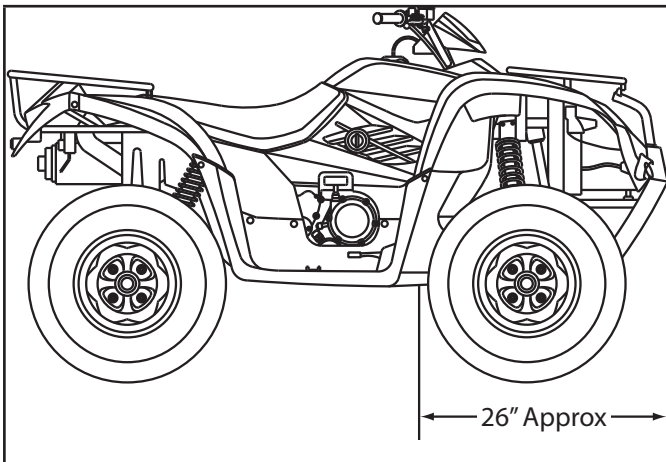
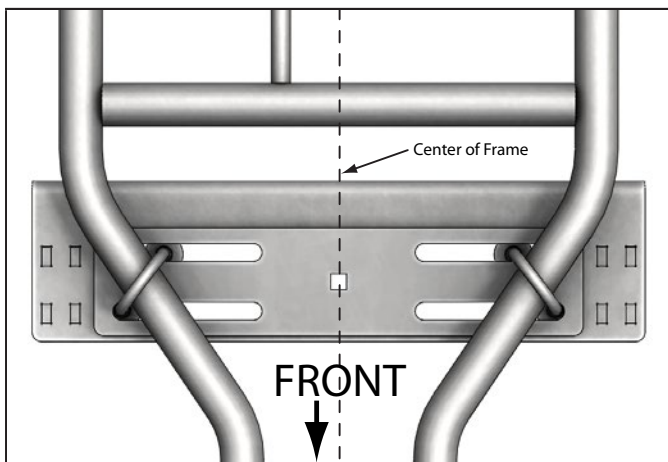

Figure 16 - Approximate Mount Distance
Figure 17 - Round Tube Mount Placements: Top View
- The approximate distance that tab holes can be from the front of the machine is 26 in. (66 cm) as shown in Figure 16. Every machine can vary because of ATV front contour.
- Place the hybrid lower mount plate up to the frame at the location behind the front tires where the frame widens out, as shown in Figure 17. Determine the location allowing the mount to be centered, back as far on the frame as possible and the push tubes to be attached. Keep the mount holes within the approximate distance from the front of your machine (see Figure 16).
4. Determine the location allowing the mount to be centered, back as far on the frame as possible and the push tubes to be attached. Keep the mount holes within the approximate distance (26 in. {66 mm}) from the front of your machine. See page 8, Figure 16.
5. Loosely install the upper mount plate (2) and lower mount plate (1) using the rubber spacers (4), 3/8 in. (9.5 mm) bolts (5.4), 3/8 in. (9.5 mm) carriage bolt (5.5), nuts (5.2) and washers (5.3) provided with your mount.
3. Determine the location allowing the mount to be centered, back as far on the frame as possible and the push tubes to be attached. Keep the mount holes within the approximate distance (26 in. {66 cm}) from the front of your machine. See page 8, Figure 16.